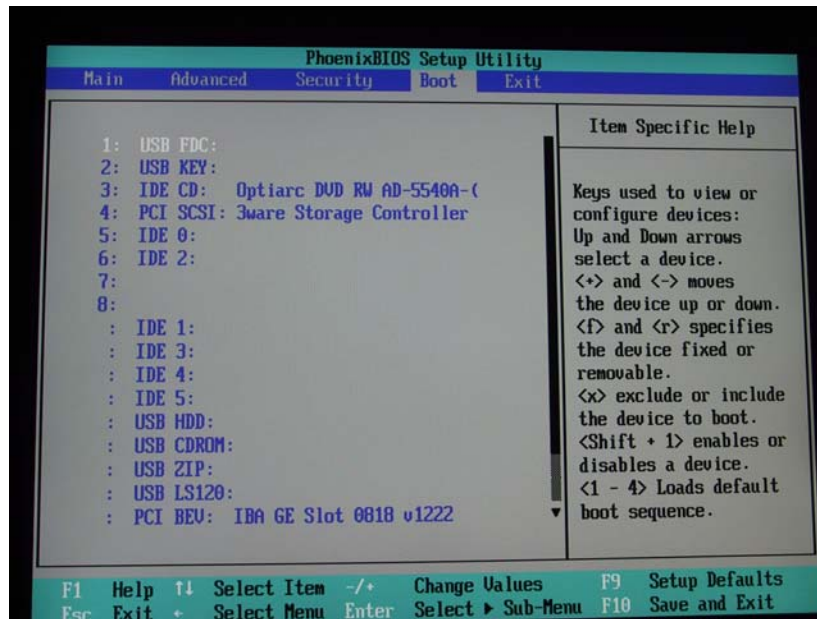

Figure 5-8
- 4) Check the boot order. It should appear similar to that shown in Figure 5-8 with the 3ware RAID controller listed after the DVD. If not, rearrange the boot order accordingly (you may need to move the 3ware raid controller from the **Exclude** list to the **Include** list and then move it to just after the DVD entry).